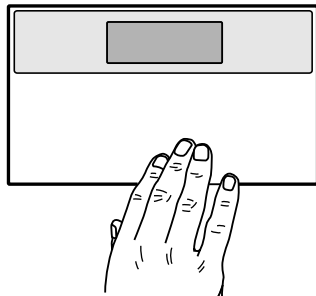

Fig. 10. Mounting thermostat on subbase or wallplate.
1. Engage the tabs at the top of the thermostat and subbase or wallplate. See Fig. 10.